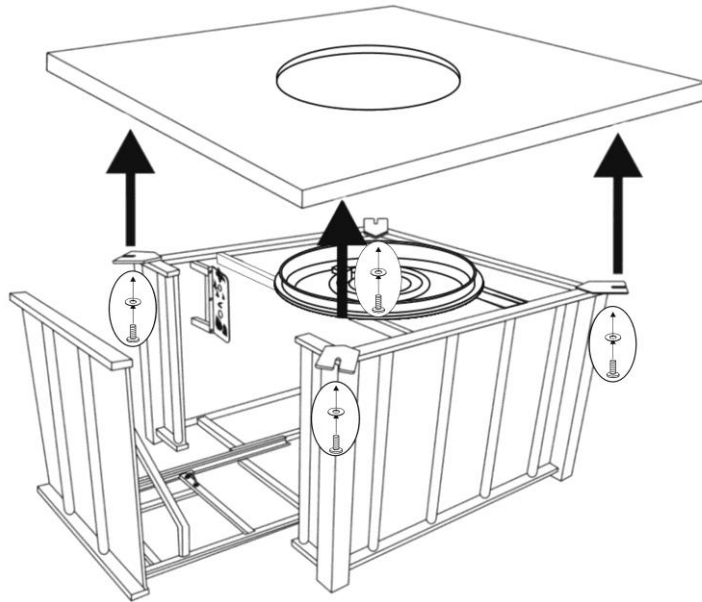

Figure 3
1. With the help of another person, turn the table base assembly in the upright position. With the help of another person, carefully place the natural stone table top onto the table base. After making any necessary adjustments to the alignment of the natural stone table top and the top connector bracket, use bolts and washers as shown in Fig.3. Guide the bolt through the top connector bracket into the pre-drilled hole on the underside of the natural stone table top. Do not tighten completely. Repeat on other three holes of the top leg connector bracket.